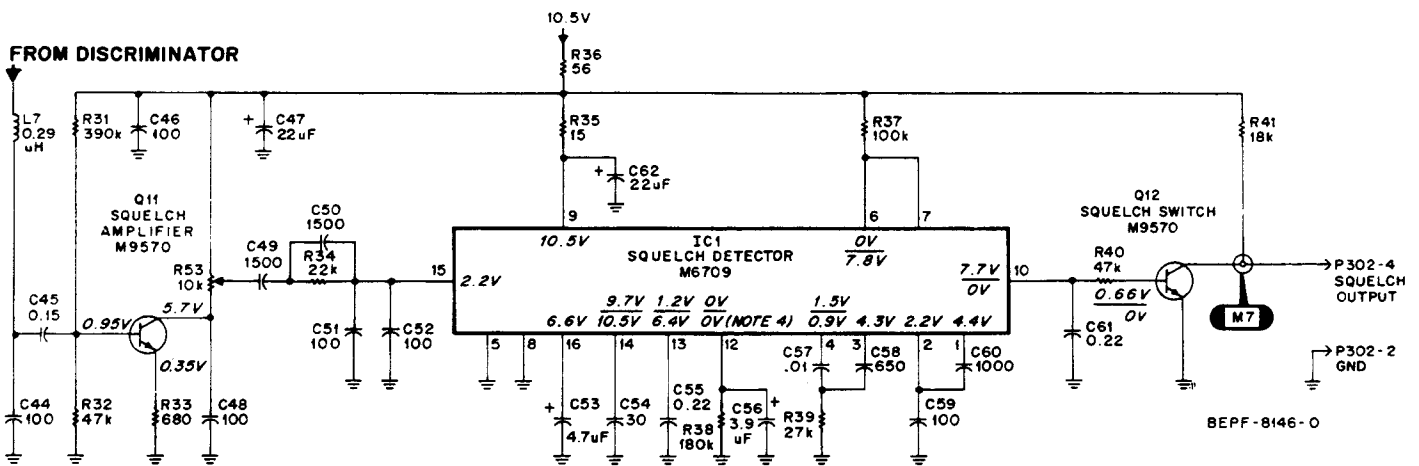

Figure 11. Typical Squelch Stages
f. Squelch Stages (Refer to Figure 11)